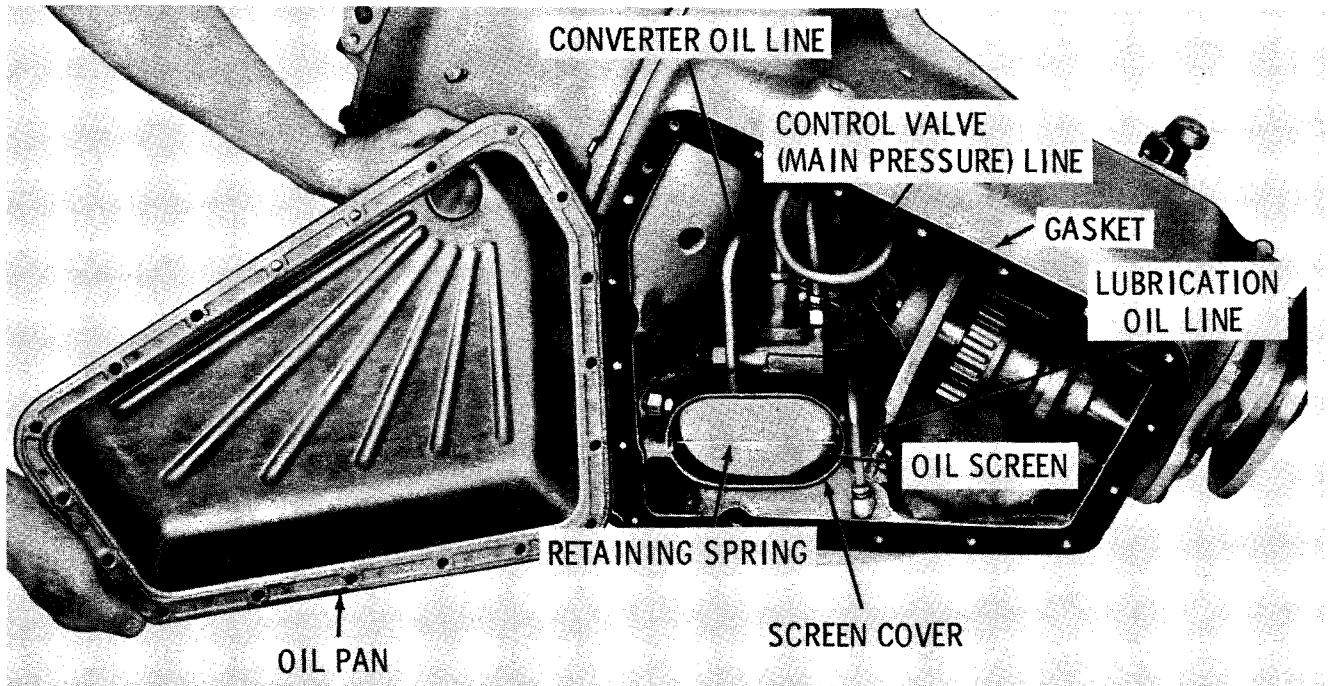

Fig. 7-21. Installing oil pan
(5) Install oil pump-to-control valve (main pressure) oil line 13 and oil pump-to-converter oil line 14 on the oil pump. Tighten the oil line fittings at the oil pump and main housing (fig. 7-21).
(6) Install gasket 19 (A, foldout 14), oil pump screen cover 20 and reinforcement 21 to the oil pump. Retain them with two 1/4-20 x 7/16-inch bolts and lockwashers 22. Tighten the bolts to 6 to 8 pound feet torque.
(7) Install oil pump screen 23 and retain with retainer spring 24.
(8) Install oil pan gasket 1 and oil pan 28 onto the main housing (fig. 7-21). Retain the oil pan with nineteen 5/16-18 x 7/8-inch bolts 29 (A, foldout 14). Tighten the bolts to 17 to 20 pound feet torque.
(9) Install gasket 9 (B, foldout 10) onto oil level gage and filler cap 8. Install the cap and gasket into the main housing oil filler hole.